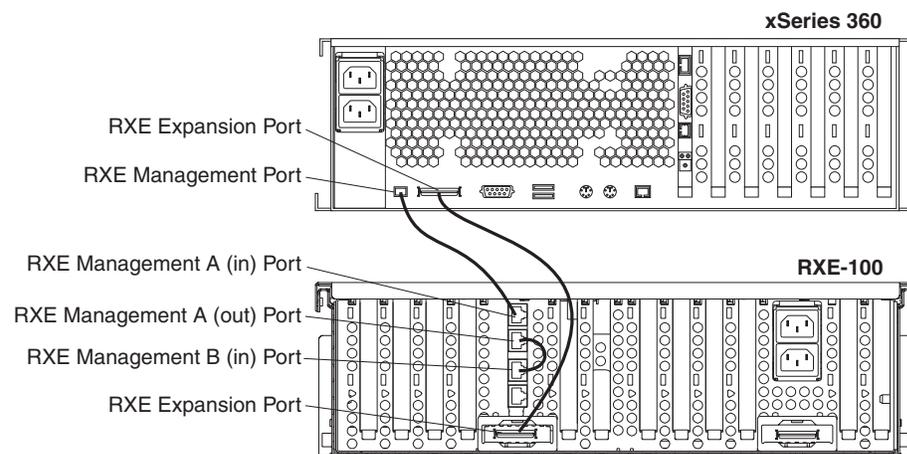

Figure 28. Server controlling two systems in the enclosure
5. If the enclosure has both an A and a B system installed and you want to control both systems from the same server, use Figure 28 on page 48 and complete the following steps:
Figure 28 shows the connections between one server and an enclosure with two systems installed, where the server controls both systems. The PCI Expansion Port on the server is connected to DMC A in Port on the enclosure. See “Configuring the remote expansion enclosure” on page 7 Connect DMC A Out Port and the DMC B in Port on the server; this connection extends the control to system B of the enclosure.